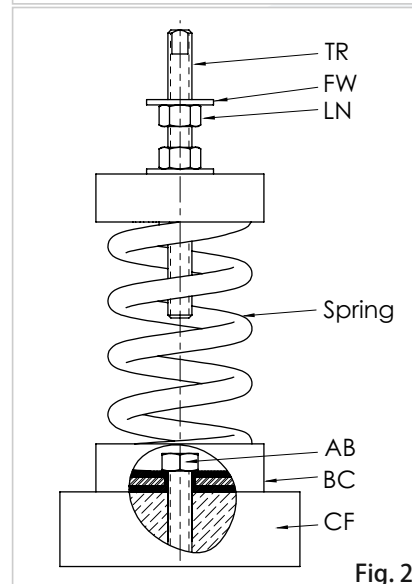

Fig. 2
**3)** Secure the isolator's base cup (BC) to the equipment support structure - concrete foundation or metal frame (CF), according to the equipment base's drawings for the locations of the mounting holes. As per figure 2, the open spring mount's base cup (BC) has a  $\varnothing 1/2"$  center hole for attachment. All bolts and anchor hardware (AB) must be a minimum of grade 5. If recommended by the manufacturer or installation engineer a higher grade, then follow their recommendation. All anchors (AB) must be installed according to the installation drawings and instructions (anchoring hardware supplied by others).
**4)** Remove the lock nut (N) and top washers (TW) from the threaded rod (TR). Leave the leveling nut (LN) and the flat washer (FW) assembled on the threaded rod (TR), as shown in figure 2.